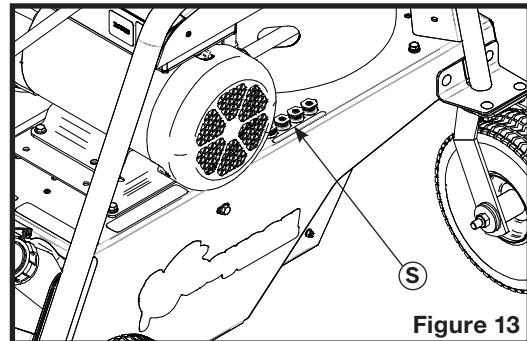
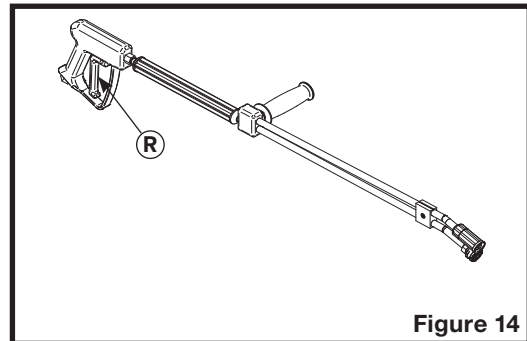

Figure 13
Figure 14
2. Depress the gun trigger (R on figure 14) until water flows out limp and regularly. Release the gun trigger.
3. Install a high pressure nozzle (S on figure 13) at the wand outlet (T on figure 14):
5. Depress the gun trigger (R on figure 14) to start the pump motor.